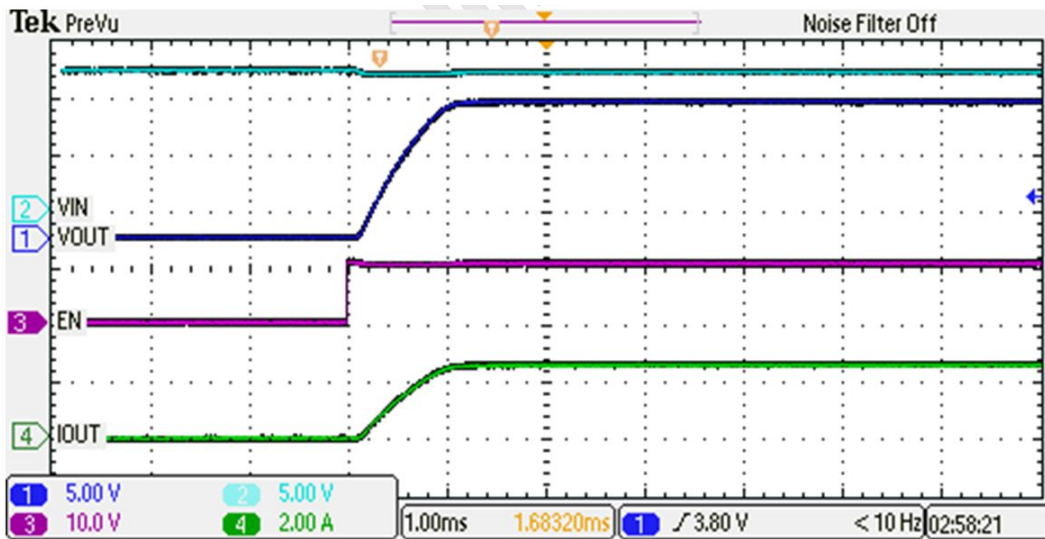

Figure 4. Vout Ramp-up Time of Latched Circuit Breaker (CH2)
3. Set the output load at 5 Ω on CH2 and then enable the load. Turn on the power supply, Press the EVM RST switch (S2) and release, verify that VOUT2 (TP16) ramps up as shown in Figure 4.